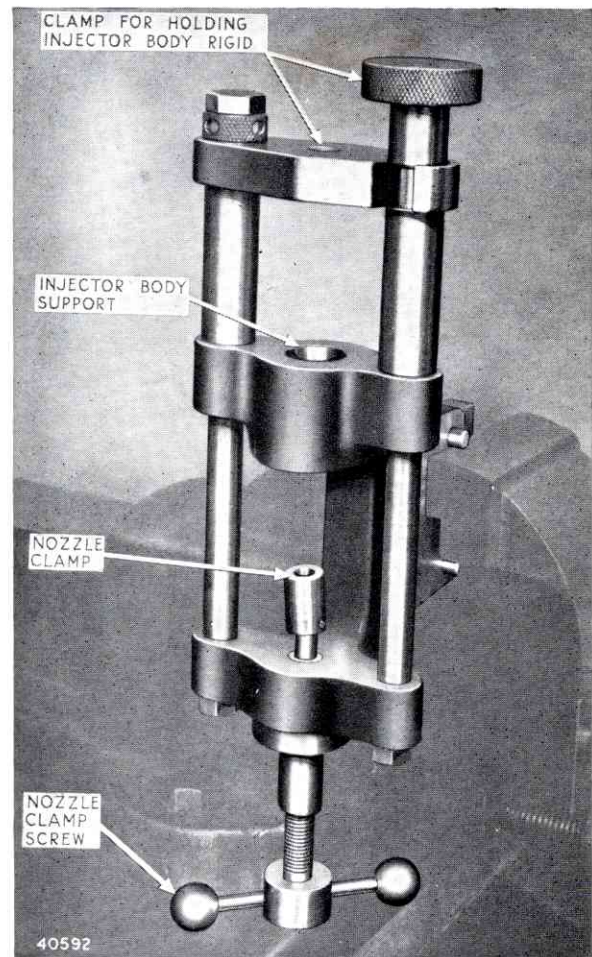

FIG. 70. NOZZLE AND NEEDLE ALIGNING JIG
2. Fit the injector body in the jig, Fig. 70.